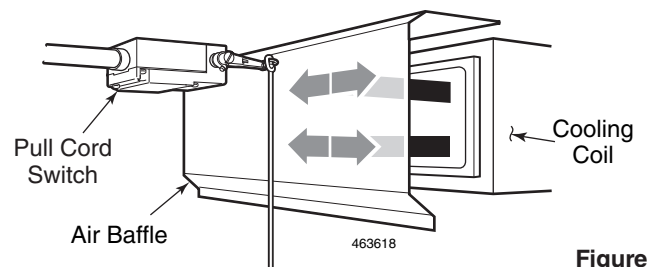

Figure 22
1. Do not mount the pull cord switch in the air flow of the coils. Air flow will move the cord and activate the switch. If the pull cord switch must be mounted in front of the coils, provide an air baffle (by others) to prevent icing of the switch. The air baffle must be of adequate size to protect the pull cord itself, but not obstruct function of the coils. Consult the cold storage contractor. See *Figure 22*.